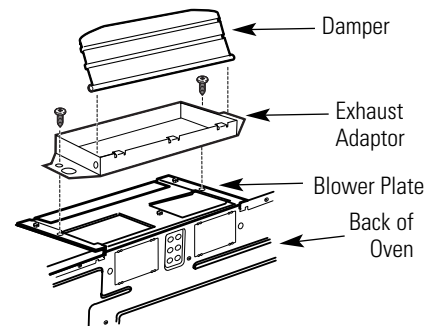

Figure 23
7. Insert the tabs on each side of the damper into the holes at the inside rear of the adaptor. Attach the exhaust adaptor to the blower plate with the two tapping screws provided. See Figure 23. Make sure that the damper swings freely.